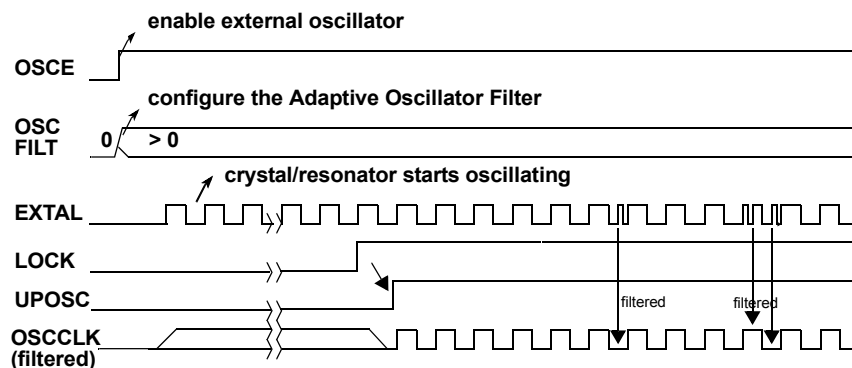

Figure 99. Noise Filtered by the Adaptive Oscillator Filter
1. Filter noise (spikes) from the incoming external oscillator clock. The filter feature is illustrated in Figure 99.